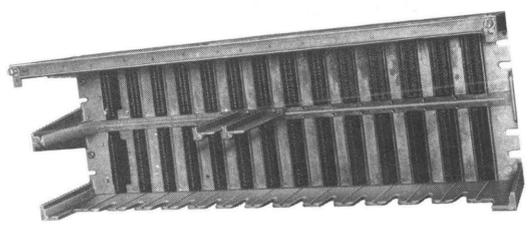

Fig. 50—604B (MD) or 604C Panel
deep. Provides fusing and connections for fourteen 101-type, 102-type, 108A or 120-type interconnecting units, or 12 IUs plus two 75A control units. Fuse protection is also provided for talk battery and ring supply. Option terminals are provided for 24-volt or 48-volt operation. Intended for relay rack mounting. (See Fig. 50.) Requires separate power supply.
**2.52 604C Panel**—Approximately 8 inches high by 23 inches wide and 10 inches deep. The carrier is equipped with 14 each 913A (20 pin) and 914A (40 pin) connectors for mounting 4- and/or 8-inch IUs (see Fig. 50). The 21A apparatus unit